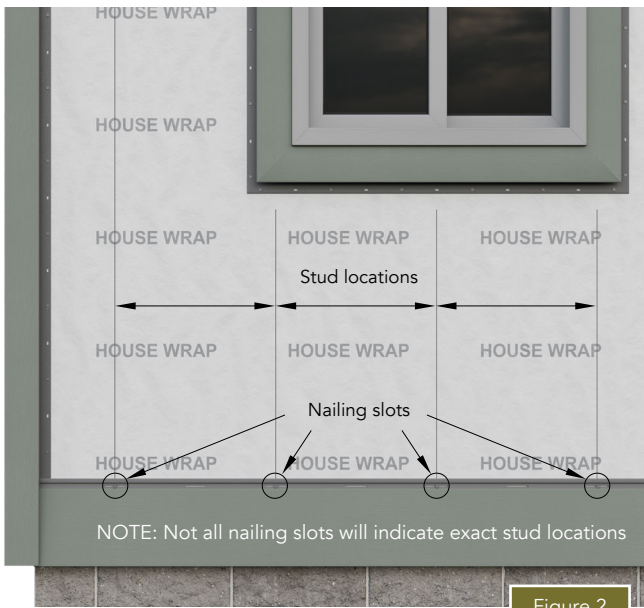

Figure 2
- Prior to installation, mark stud locations to facilitate installation. Nailing slots are provided every 8" on-center to assist in stud location (Figure 2).